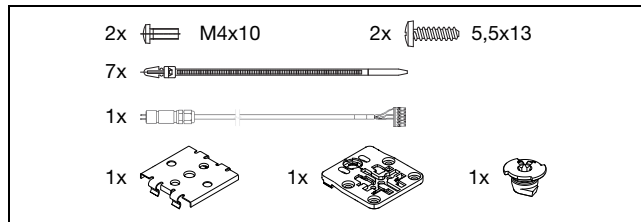

Fig. 1: Accessories supplied loose
- Accessories provided (fig. 1)